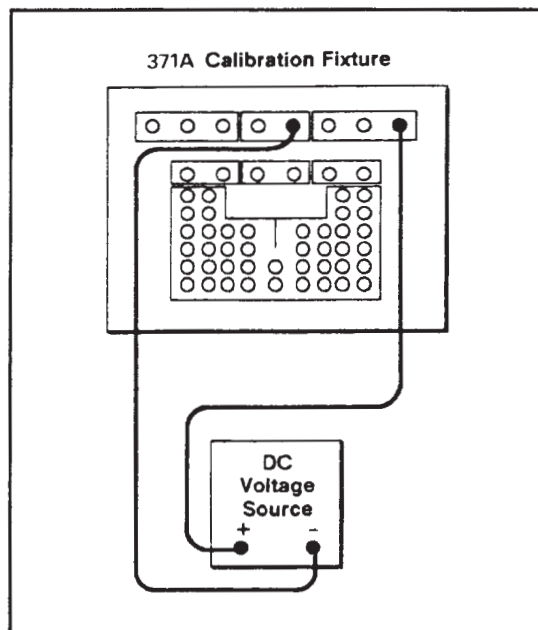

Figure 4-23. Setup for determining cursor measurement variation.
1. Connect long patch cords between the Calibration Fixture and the voltage source as shown in Figure 4-23.